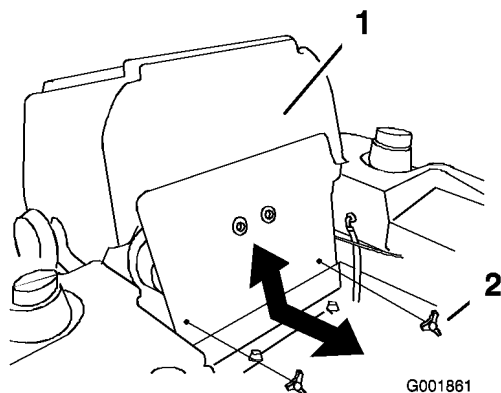

Figure 39
3. Tilt the seat forward and remove the front engine panel (Figure 39).